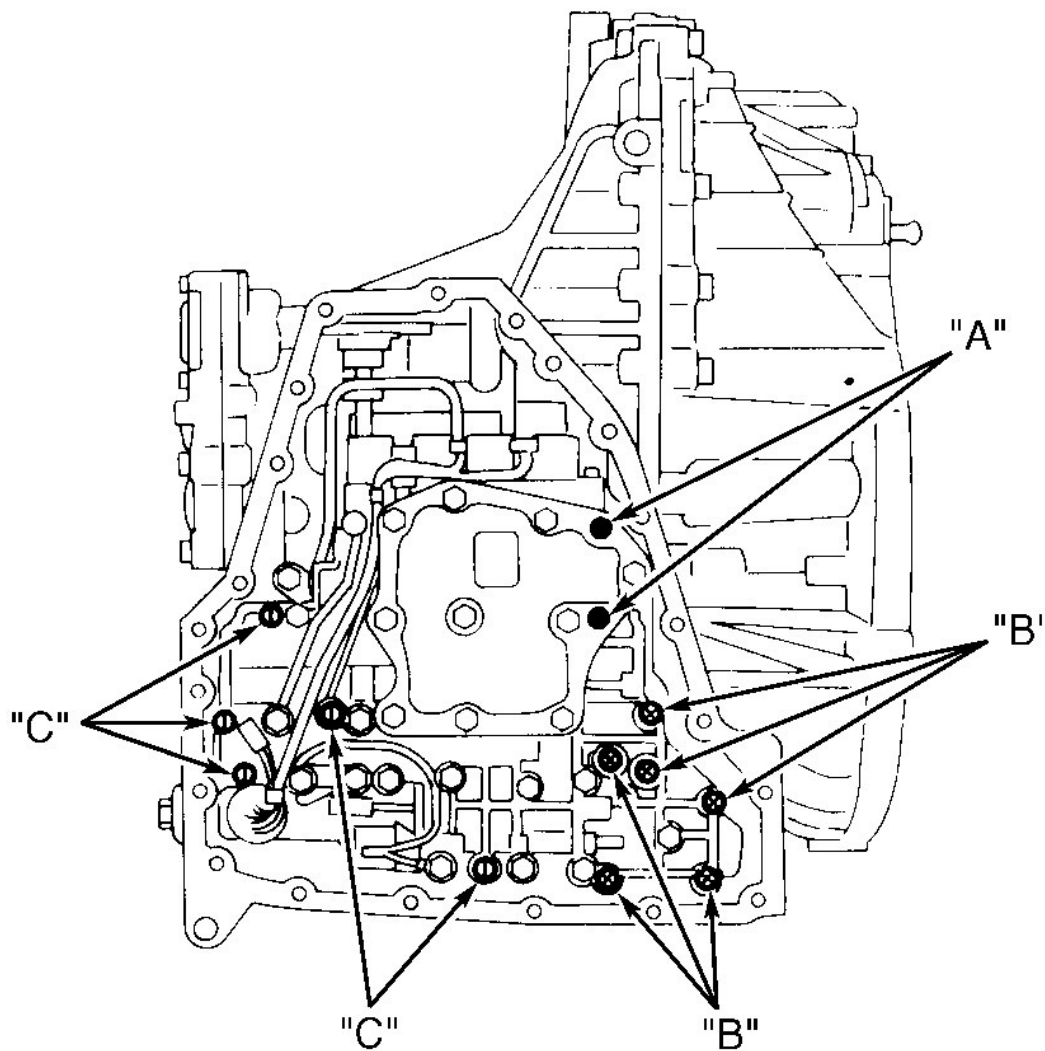
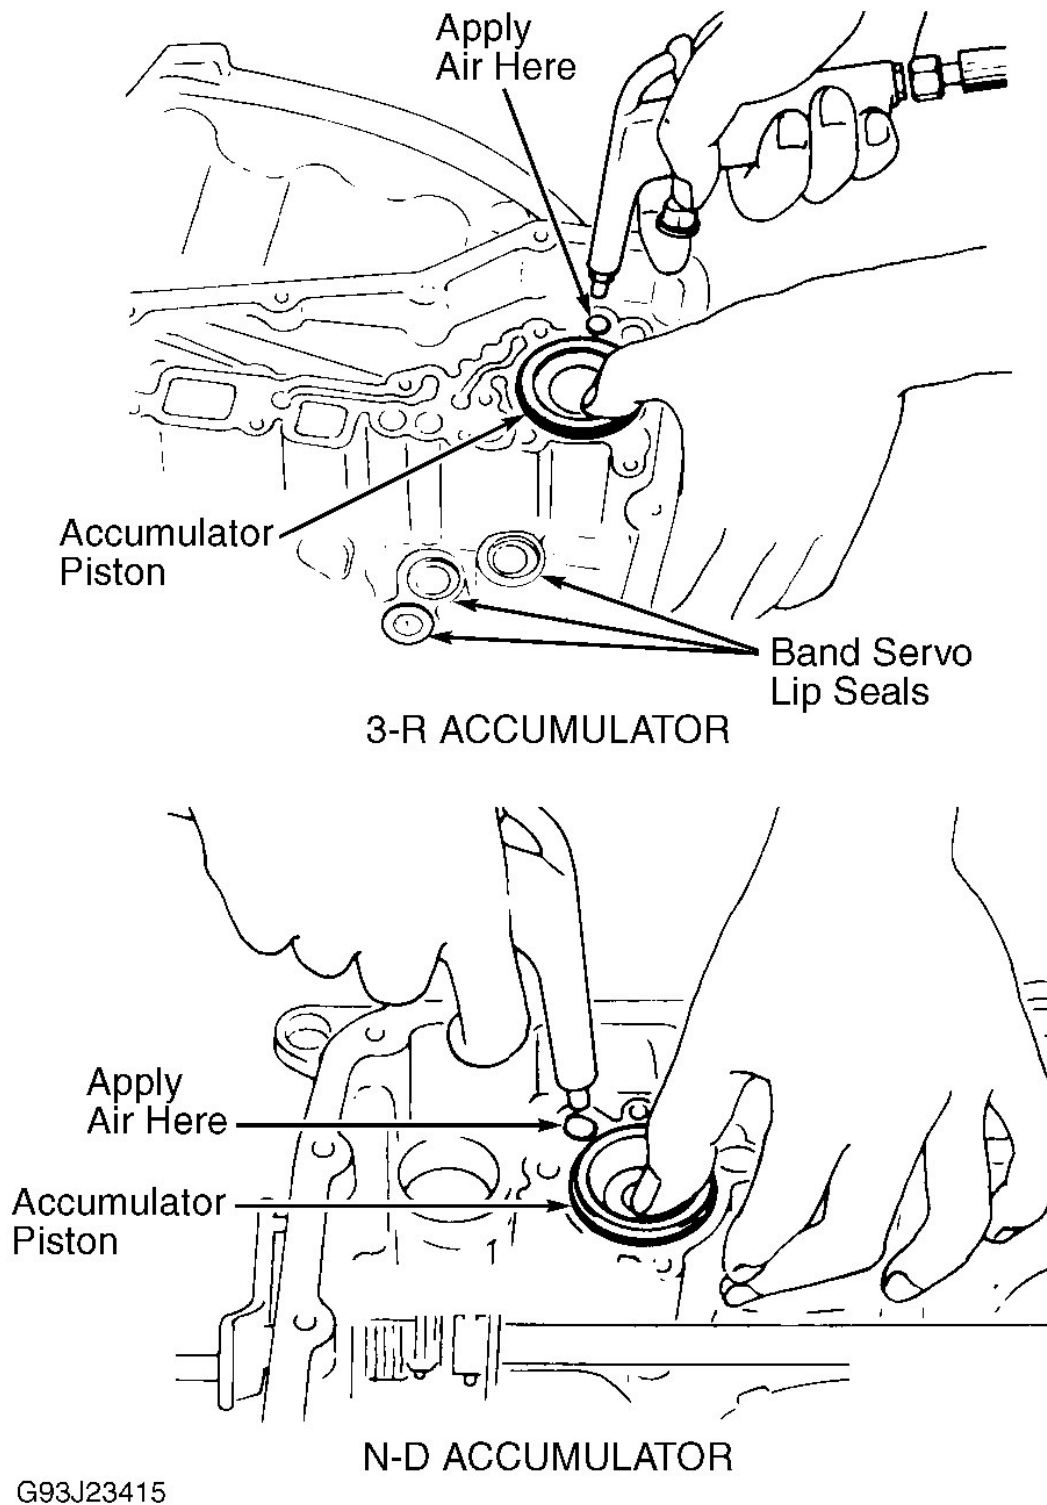

Fig. 6: Removing & Installing Valve Body Assembly
Fig. 7: Removing N-D & Servo Release Accumulator Pistons
2. Remove valve body assembly bolts. See **Fig. 6**. Remove clip from wire harness terminal body. Push terminal body into transaxle case and remove wire harness. Remove manual valve from valve body assembly. Remove return spring from servo release accumulator piston. Using compressed air, remove servo release accumulator piston. See **Fig. 5** and **Fig. 7**.
3. Remove "O" rings from servo release accumulator piston. Using compressed air, remove N-D accumulator piston and return spring. See **Fig. 5** and **Fig. 7** . Remove "O" rings from N-D accumulator piston. Check accumulator pistons and contact surface of transaxle case for damage. Check accumulator return springs free length and diameter. See **ACCUMULATOR SPRING SPECIFICATIONS** table.